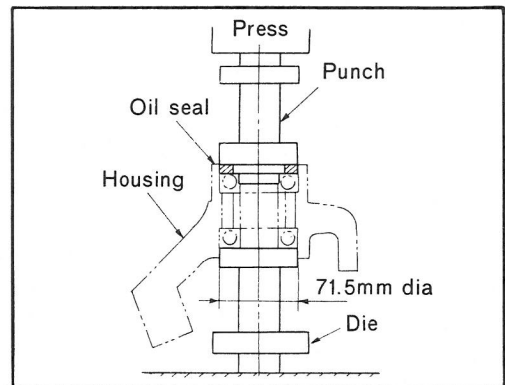

Fig. 3
(see Fig. 3 & 4)
1. When installing the oil seal into the housing, place the die with its 71.5 mm dia side upward under the housing and set on the press as shown in the above figure 3.